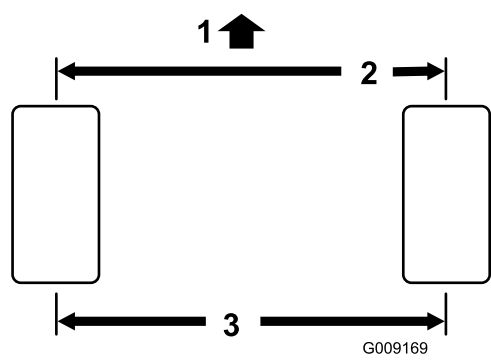

Figure 68
1. Measure the center-to-center distance (at axle height) at the front and rear of the steering tires. The front measurement must be 1/8 in. (3 mm) less than the rear measurement (Figure 68).